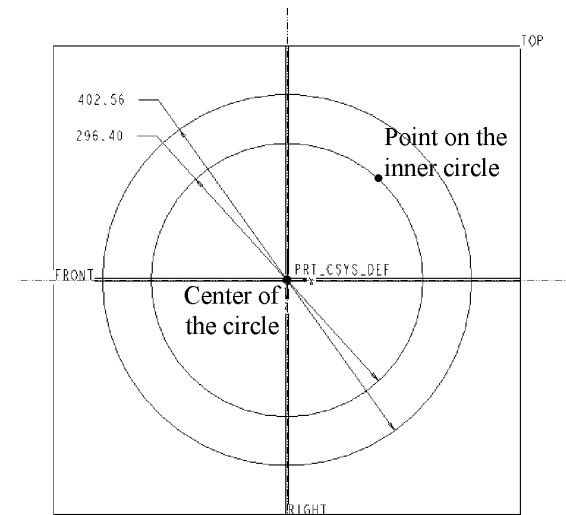

Fig. 2.11.
9. Create an inner circle.	 → Select the center of the circle as the intersection of the FRONT and RIGHT datum planes → Select a point to define the inner circle Refer Fig. 2.11.